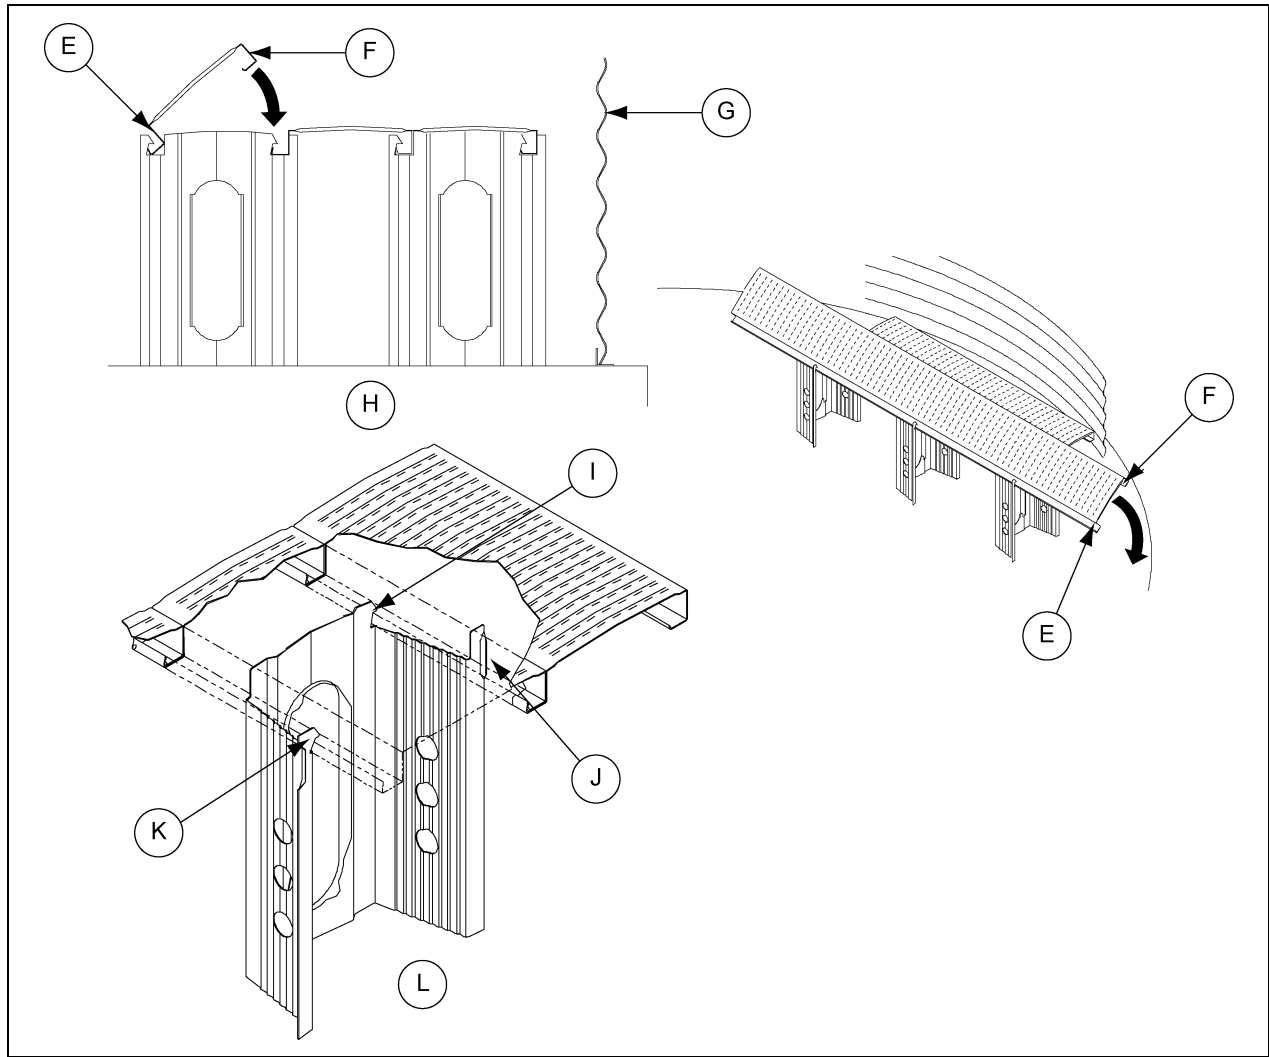
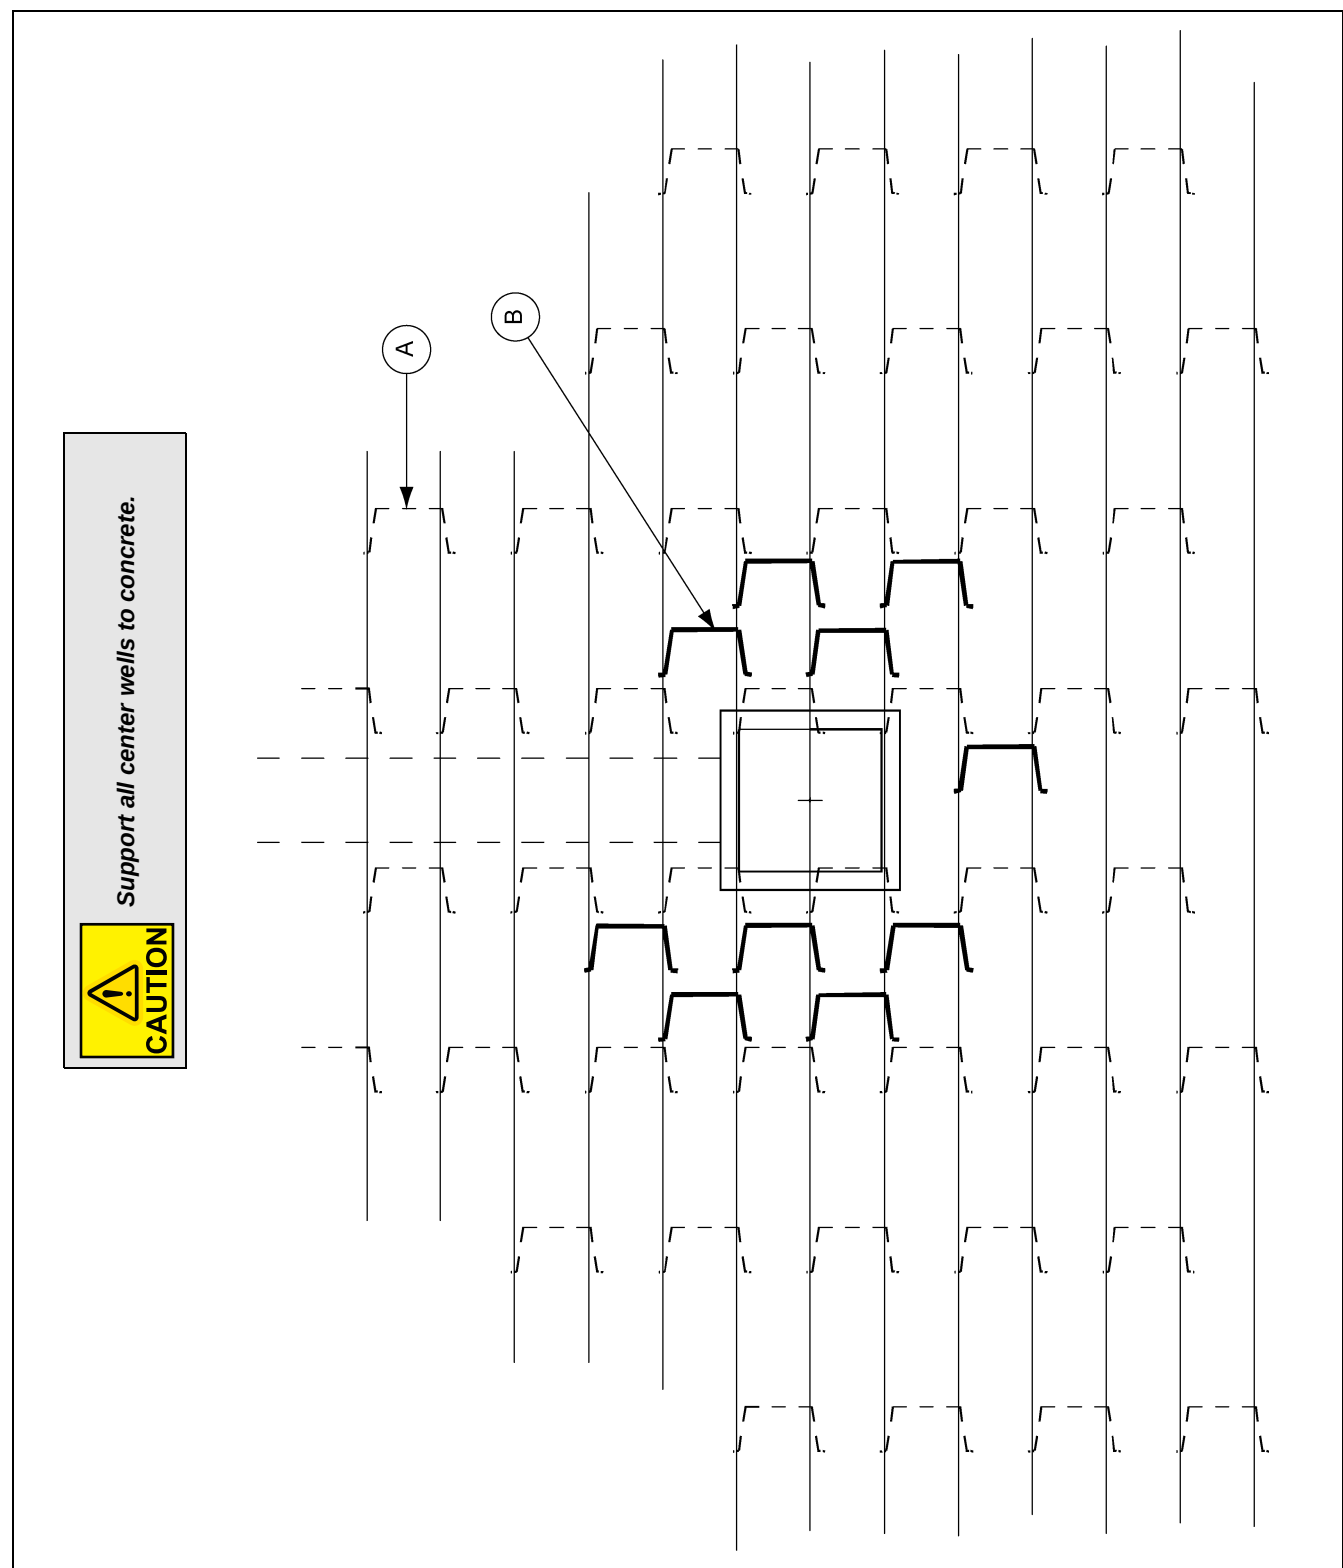
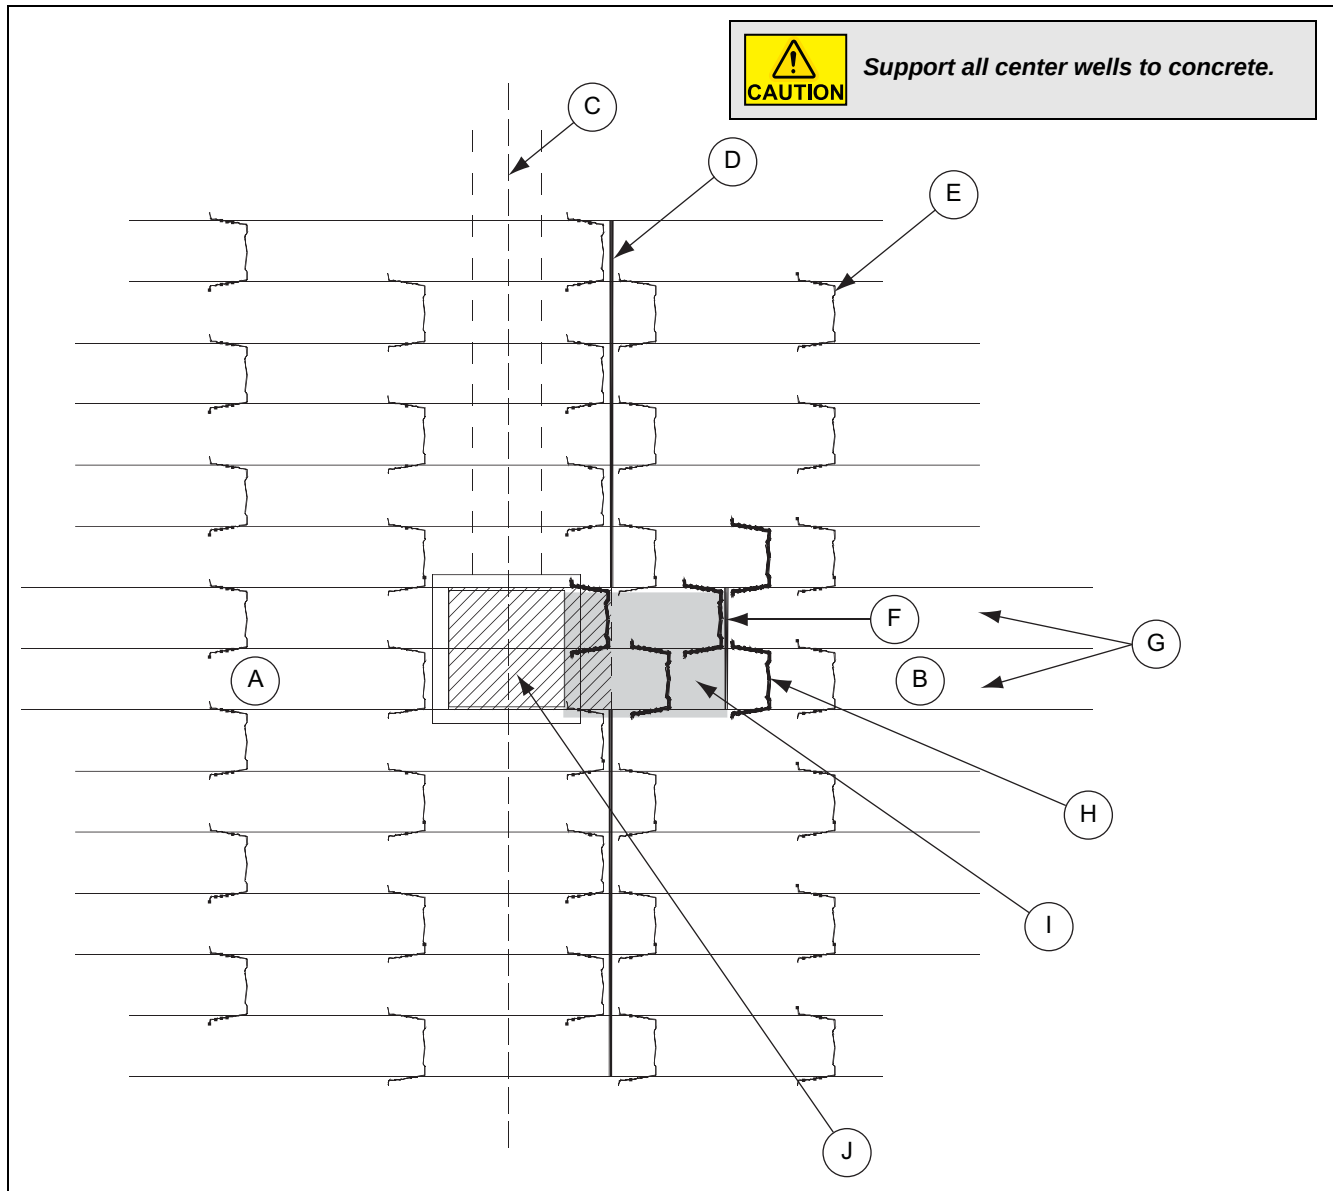
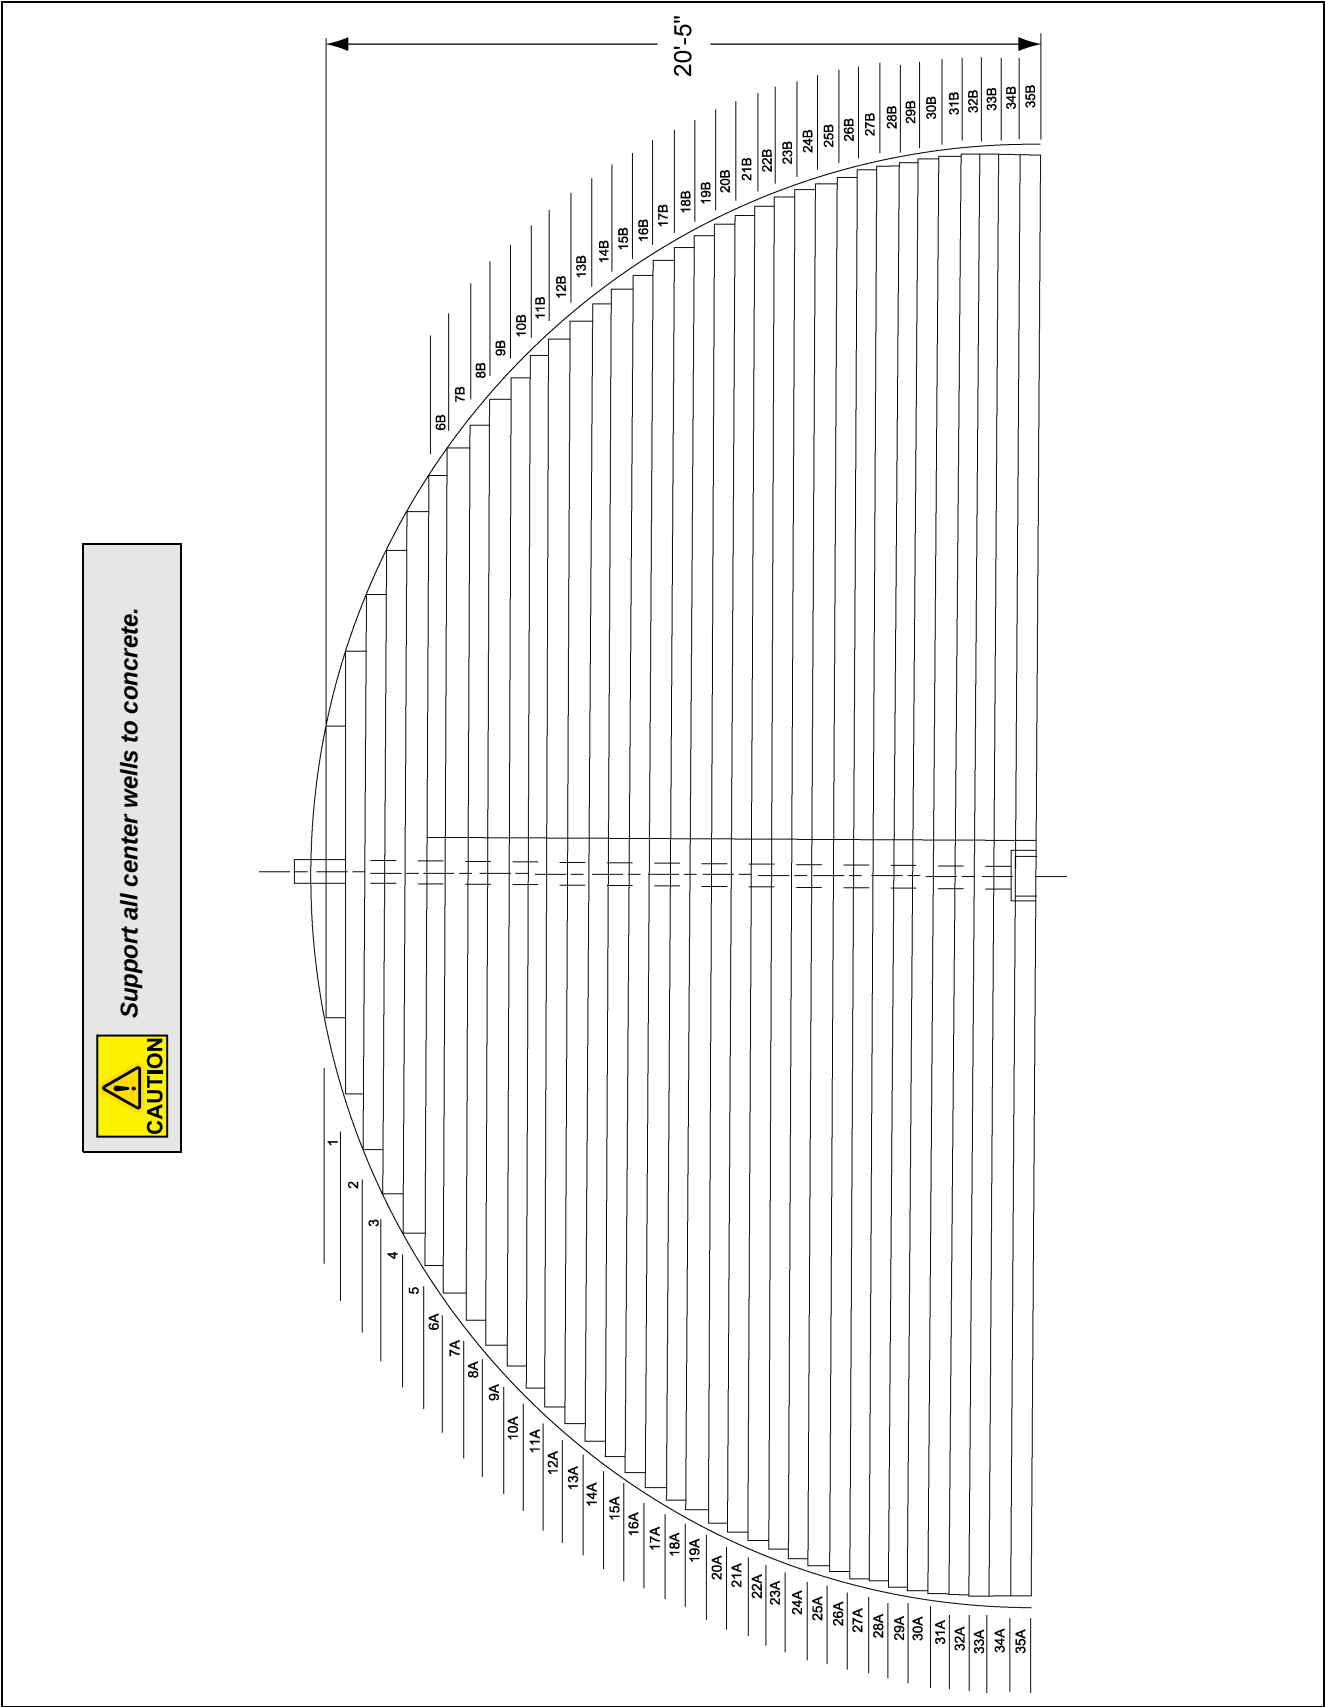

Figure 5C
Figure 8A
Figure 9A
Figure 10A
IMPORTANT: First piece of flooring must start at the proper distance from centerline of bin. Refer to floor layout on Page 24. First piece may need to be trimmed for length to fit at the proper location. (See Figure 5C.)
- Install flooring starting at the bin wall on the opposite side of the unload auger. Floor planks should be placed perpendicular to the unload auger with the outside edge the correct distance from the center of the bin. (See Figure 10A on Page 24.) Be sure the flat edge of the floor plank is facing the bin wall and the open channel edge (E) is facing towards the center of the bin. (See Figure 5C.) Position the supports for the first/shortest floor plank according to the number of bin rings and corrugation as shown in the illustrations on Pages 27-35 or stated in the charts on Pages 36-37. Attach the flashing to flooring and bin wall to hold plank in place. (See Page 21 for flashing installation.)
5. **POSITION THE NEXT ROW OF SUPPORTS ACCORDING TO THE CHALK LINES** and support layout. The straight tab should “snap” under the first (previous) floor piece. After the supports in the row are correctly positioned, install the next floor piece by hooking the open channel edge (E) under the outside hooks (K) of the floor supports. Push down sharply on the edge of the floor piece until it snaps into the previous floor piece. (See Figure 5C on Page 15.) Continue this process for the rest of the floor cutting planks for center and intermediate wells as needed. See Figure 8A on Page 22 for center well support locations.
6. Some floor planks will need to be spliced together. (See Figure 9A on Page 23, Figure 10A on Page 24 and Plank Lengths Charts on Pages 25-26.) Install plank length A first, then install the corresponding plank length B by butting plank B up against plank A. Make sure the planks are supported by a grandstand on each side of the splice. Continue until floor is complete.